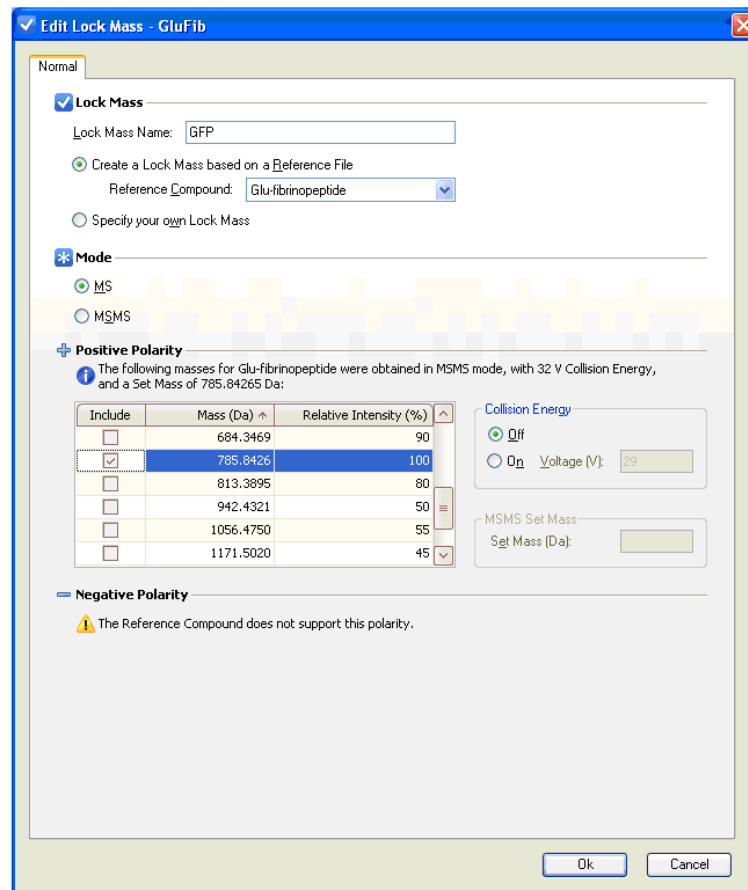

Figure 87 - Creating the GFP Lock mass in the Lock mass editor function
6. Define the Lock mass parameters for [Glu1]-fibrinopeptide B (GFP) (m/z 785.8426), as displayed in Figure 87.
7. Click **OK** to display the Lock Mass Editor table (Figure 87).